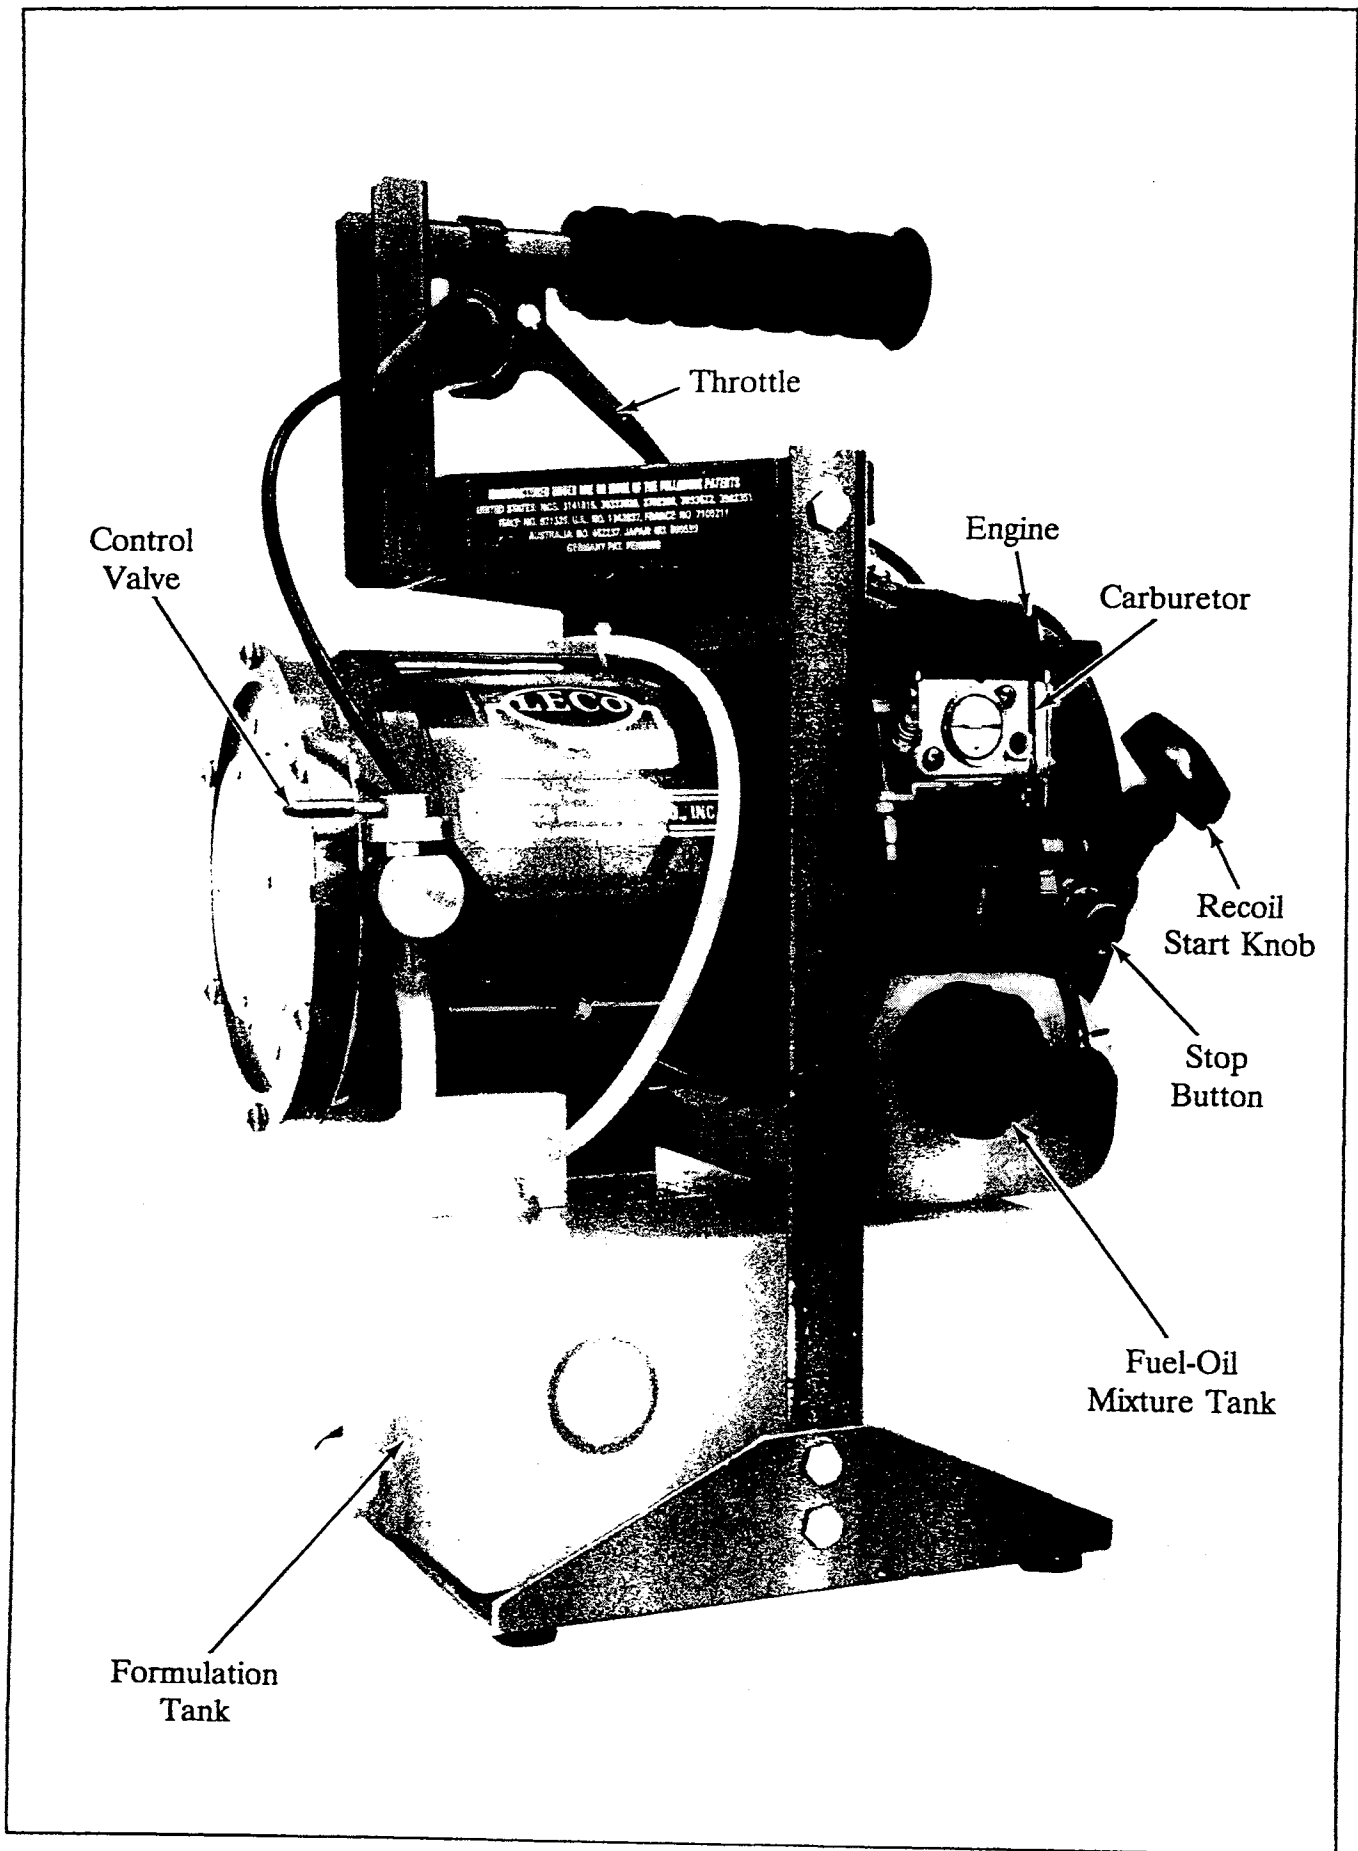
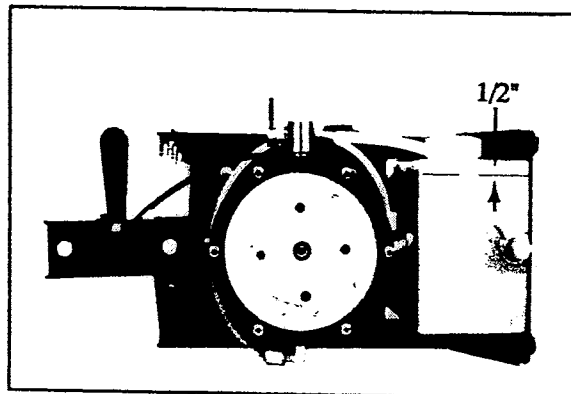

Figure 2
Figure 13
2. Stop the engine by pushing the stop button. See Figure 2, page 8.
3. Pull the recoil start knob slowly and return the knob to its original position when resistance is felt. This is necessary to prevent outside moist air from intruding into the combustion chamber. See Figure 2, page 8.
Reference Figure 2, page 8
Reference Figure 2, page 8 and Figure 13
2. Fill the insecticide tank to within 1/2" to the top of the tank, see Figure 13. Note: It is absolutely necessary that the insecticide be free of trash. Any trash or suspended solid matter may stop up the control valve. It is recommended that the insecticide be filtered before filling the tank. When replacing the tank cap, be sure the O-ring is in place.
**NOTE:** Do not fill the insecticide tank completely to the top. Leave a 1/2" air space at the top of the tank. If the tank is filled completely to the top, the insecticide will be forced into the blower when the throttle is released. If this happens, the insecticide will drip from the blower. See Figure 13.